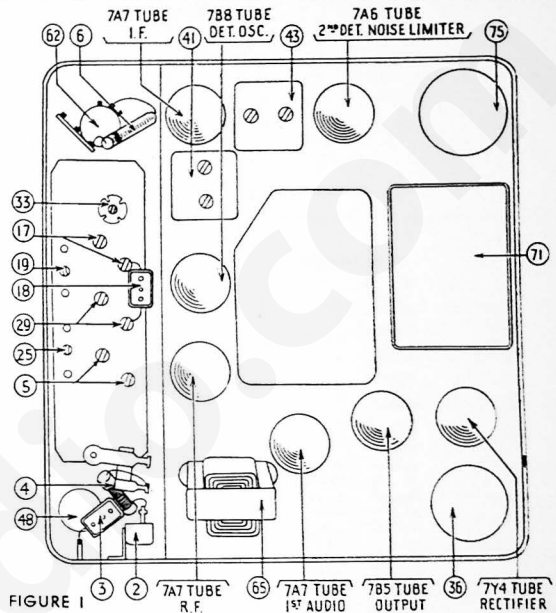

FIGURE 1
**NOTE 5** — When installing the radio in the car, follow the installation instructions carefully. Tune in a weak broadcast signal between 1200 and 1400 Kilocycles on the control scale. Remove the plug button on the end of the radio and adjust the aerial compensator ③ (see Figure 1) for maximum signal.